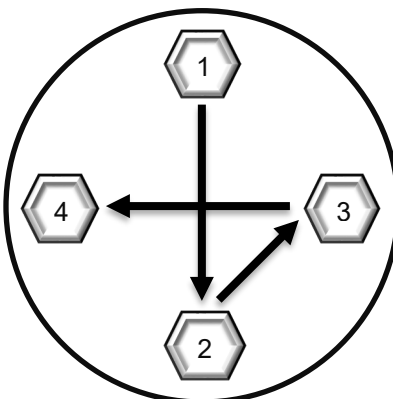

Figure 3-5. Interface Plate Fasteners 4-point Tightening Sequence
9. Torque the interface plate fasteners in the appropriate sequence as per Figure 3-5 to keep the mating interfaces parallel to each other. Please follow the outlined torque method.